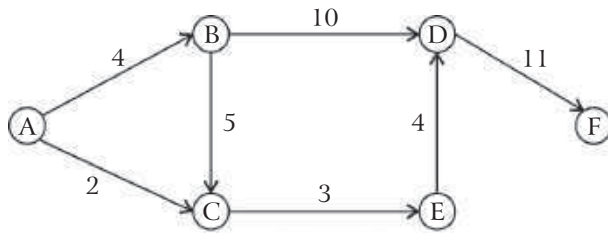

Fig. 8.56
5. In the network given in fig. 8.56, the length of shortest route from node *A* to node *F* is